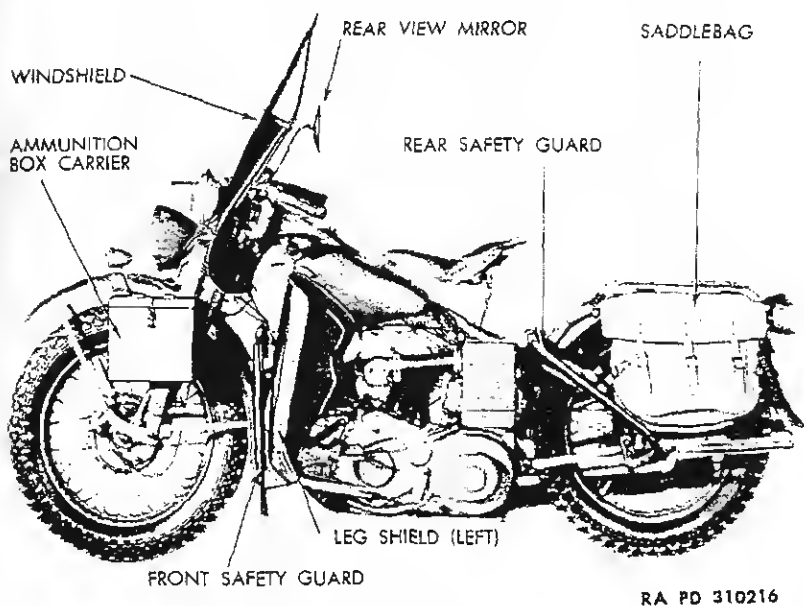

Figure 12—Vehicle Equipment, Left Side
22. VEHICLE EQUIPMENT (figs. 12 and 13).